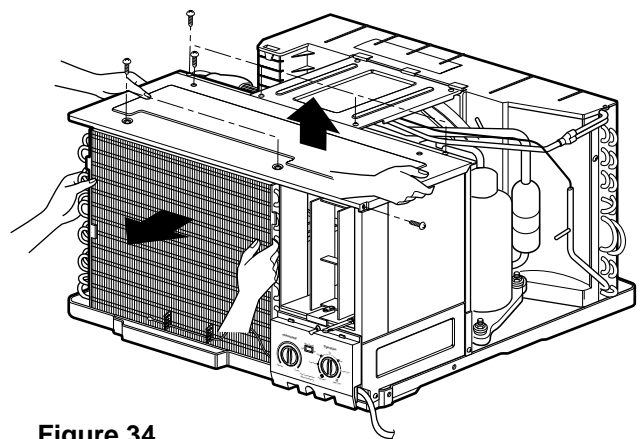

Figure 34
7. Re-install the components by referring to notes. (See Fig. 34)